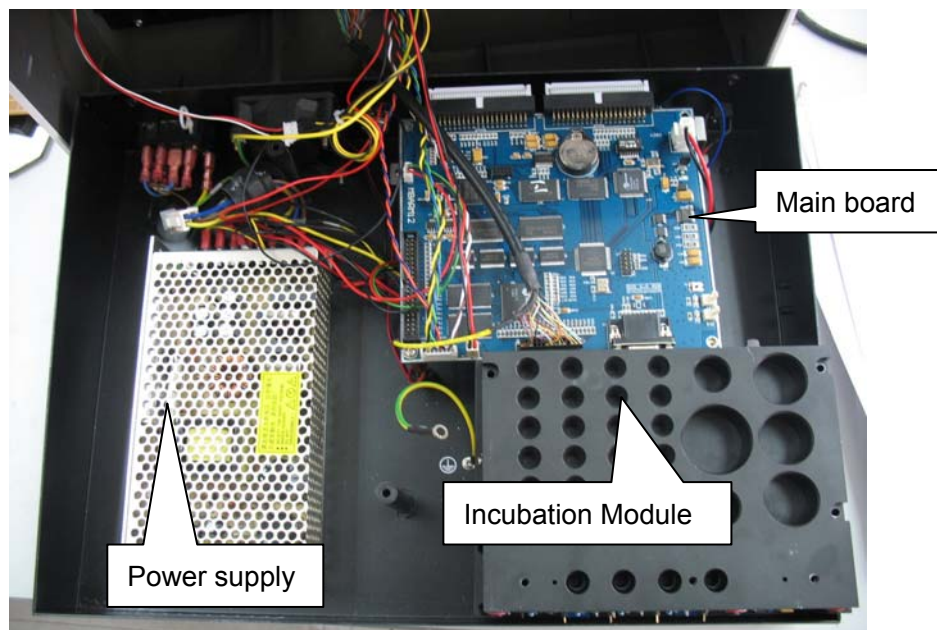

Figure 4-25
1. Switch off the power supply, remove the power cord, and open the upper cover of the analyzer, and main board can be seen as shown in Figure 4-25.
1. Switch off the power supply, remove the power cord, and open the upper cover of the analyzer, and power supply module can be seen as shown in Figure 4-25.